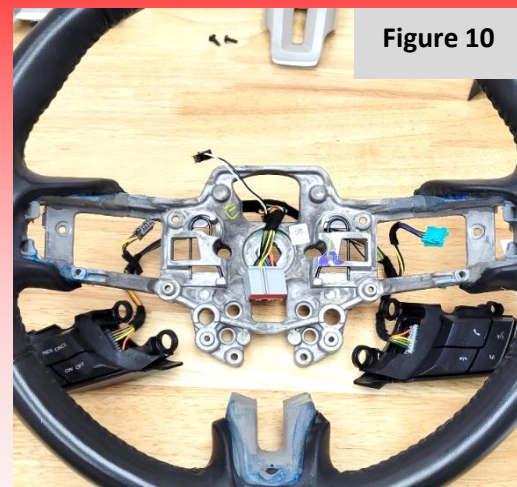

Figure 10
11. Remove the wiring harness from the OEM steering wheel core. Note how the wiring harness is looped through the steering wheel core, similar to as shown in **Figure 10**. You will need to reassemble it the same way on the aftermarket wheel. Set the harness aside for the reassembly
14. Feed the wiring harness back through the steering wheel core (**Figure 10**). Then, reattach the rear shell to the core. A small bladed screwdriver may be needed to help guide the harness into the channels on the rear shell once assembled. Without doing so, the fitment of the shell/controls may not be tight.